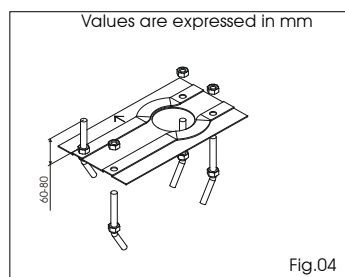

Fig.04
- 1- Assemble the foundation plate as shown in figure 04.